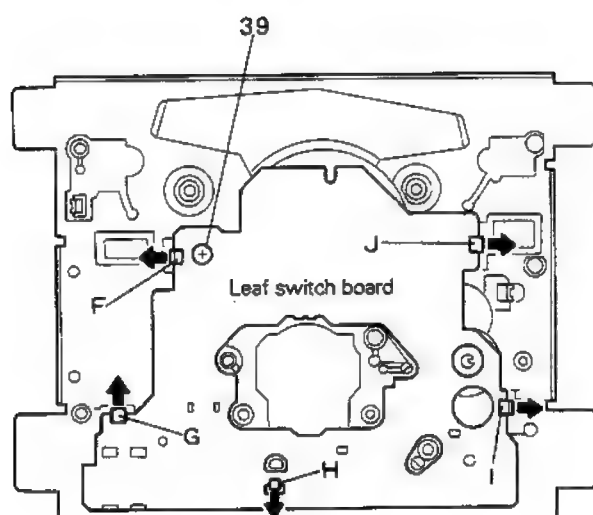

Fig. 7-29
■ Leaf switch board (Fig. 7-29)
1. Remove a screw (39) retaining the leaf switch board from the chassis basis.